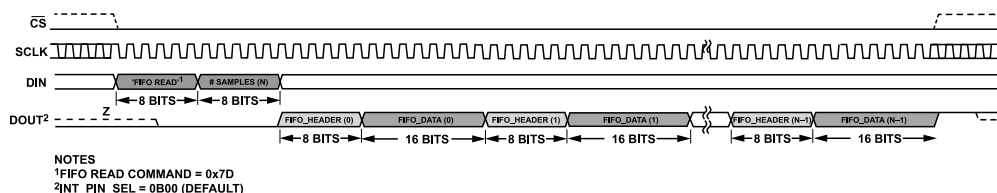
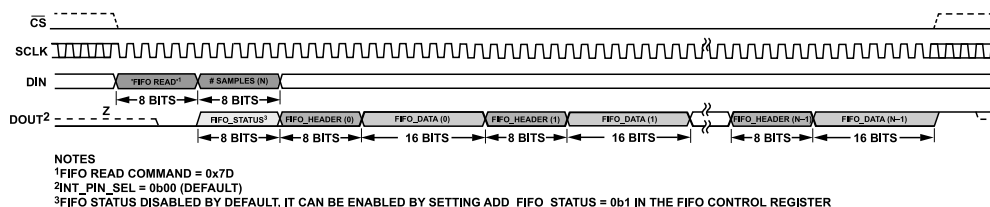

Figure 103. FIFO Readback Default (FIFO\_STATUS Append Off and FIFO\_HEADER Append On)
Figure 104. FIFO Readback (FIFO\_STATUS Append On and FIFO\_HEADER Append On)
By default, the FIFO\_HEADER is enabled and the FIFO\_STATUS append is disabled. So, the FIFO readback diagram looks like Figure 103. If the FIFO\_STATUS append is enabled, the FIFO readback diagram looks like Figure 104.
Enable the FIFO\_STATUS register content (see Table 69) to be added and read before the FIFO\_DATA and during the # samples (N) byte (see Figure 104), by setting ADD\_FIFO\_STATUS bit to 1 in the FIFO\_CONTROL register (see Table 67). This way, detect an error earlier and abort the FIFO\_DATA readback.